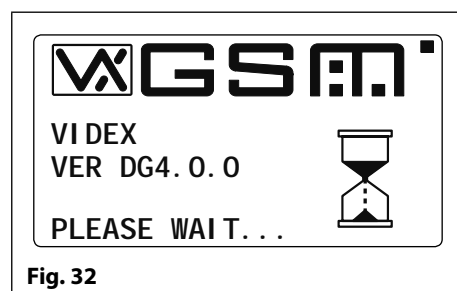

Fig. 32
5. After a brief delay the display will show the Videx GSM logo and current firmware version number, as shown in **Fig.32**.